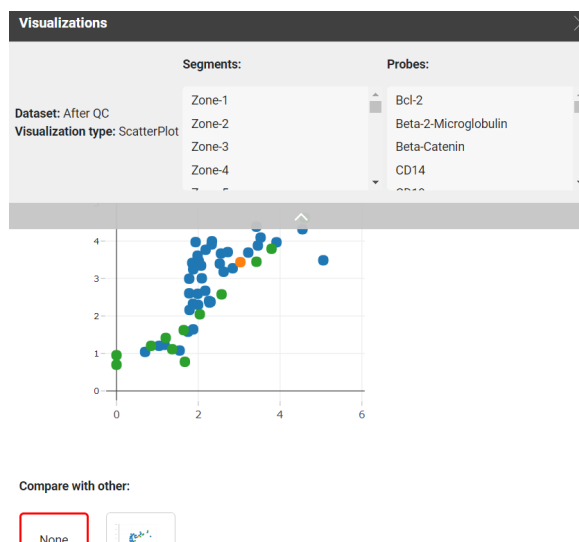

Figure 107: Comparing saved visualizations
4. You may select another visualization (if available) to compare to the present image by selecting it at the bottom of the window (see Figure 107).